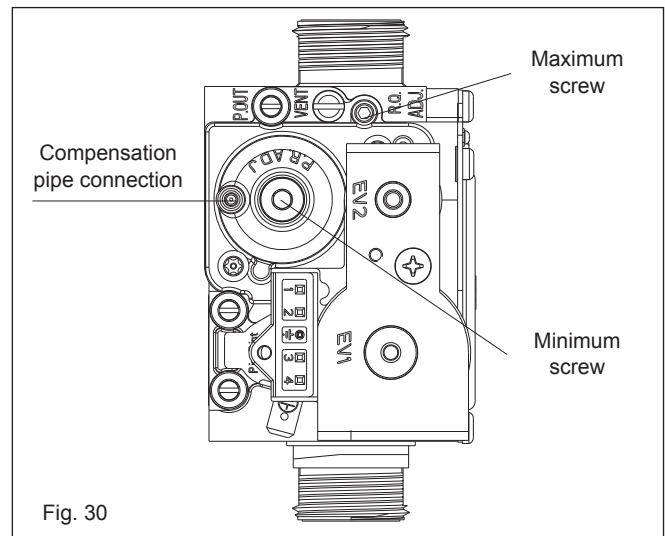

Fig. 30
- Using a suitable screwdriver, very slowly turn the maximum adjustment screw (see fig. 30) – clockwise to decrease, counter clockwise to increase – until the correct value is displayed on the CO₂ analyser (allow time for the analyser to stabilise).
- Using a 2,5mm Allen key, very slowly turn the minimum adjustment screw (see fig. 30) – clockwise to increase, counter clockwise to decrease - until the correct value is displayed on the CO₂ analyser (allow time for the analyser to stabilise).